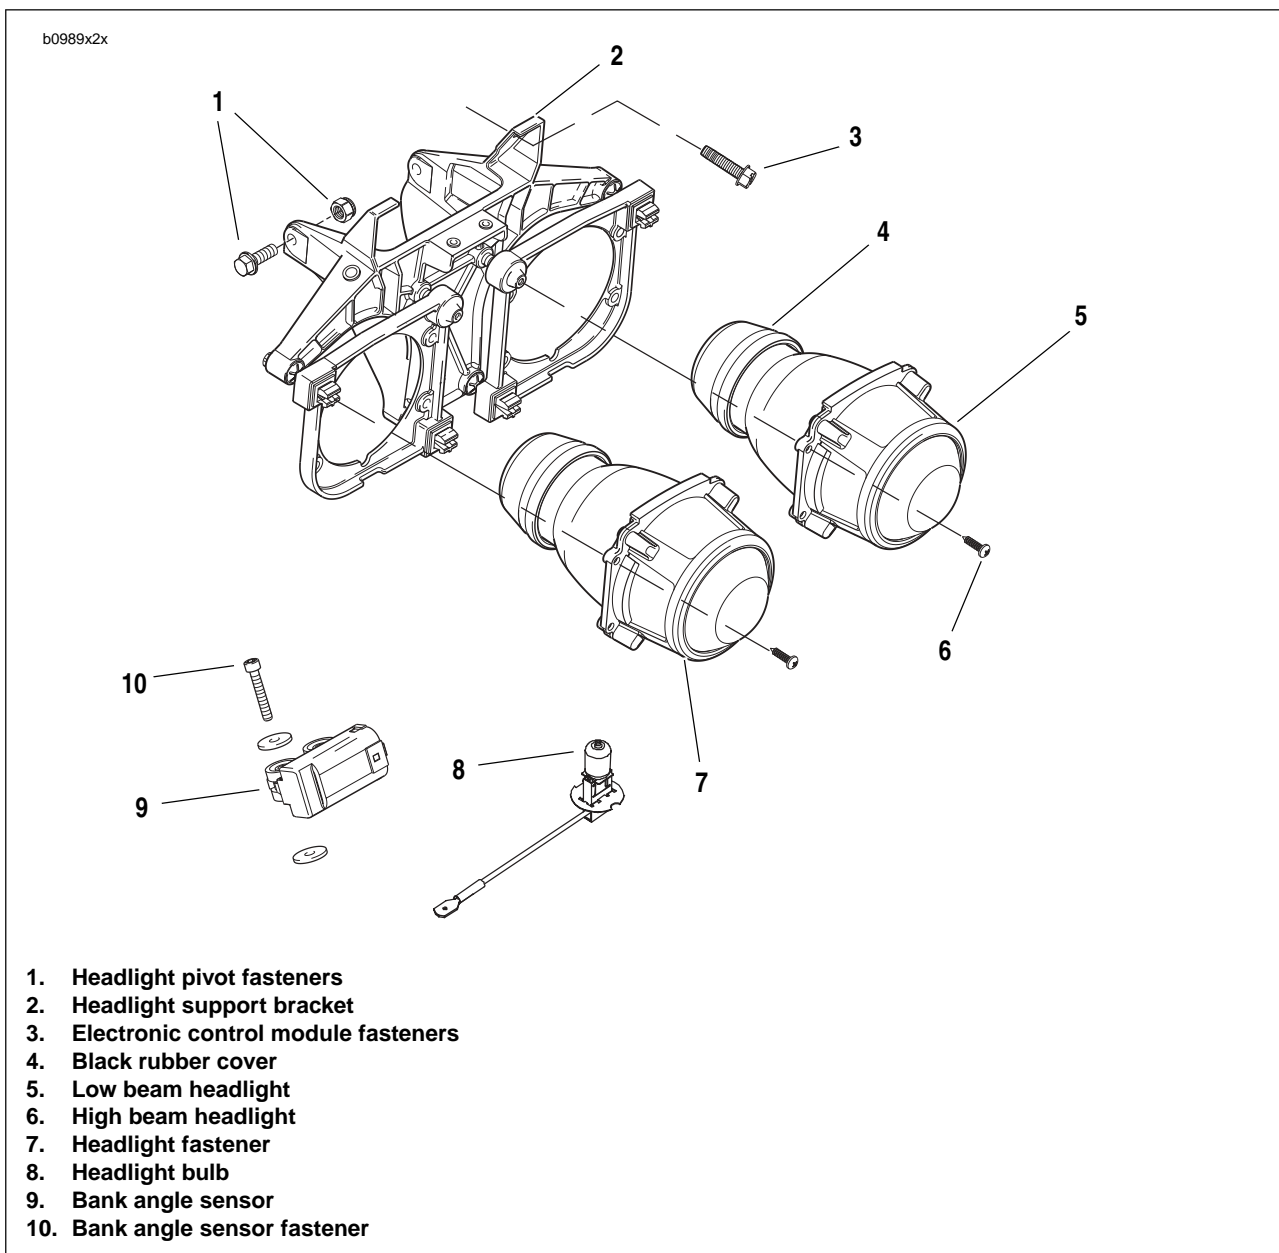

Figure 2-93. Headlight Support Bracket Assembly
5. See Figure 2-93. Rotate headlamp support bracket.
- a. Loosen headlamp pivot fasteners (1).
- b. Rotate headlight bracket (2) down.
8. See Figure 2-93. Remove headlight support bracket (2).
2. Remove flasher (1).
3. See Figure 2-93. Remove black rubber cover (4) from rear of headlights.
5. Disconnect headlight bulb (8) connector (white) from wire harness.
6. Remove headlights (5, 7) from headlight support bracket (2) by removing headlight fasteners (6).
1. See Figure 2-93. Align headlights (5, 7) into headlight support bracket (2). Tighten headlight fasteners (6) to 20-25 **in lbs** (2.3-2.8 Nm).
2. Connect headlight bulb (8) connector (white) into wire-harness.
4. Install black rubber cover (4).
2. See Figure 2-93. Install headlight pivot fasteners (1) but do not tighten.
6. See Figure 2-93. Rotate headlight support bracket up (2) and tighten pivot fasteners (1) to 72-96 **in-lbs** (8-11 Nm).
- a. Figure 2-93. Align electronic control module and headlight support bracket with fairing support bracket.
- b. Tighten electronic control module fasteners (3) to 72-96 **in-lbs** (8-11 Nm).